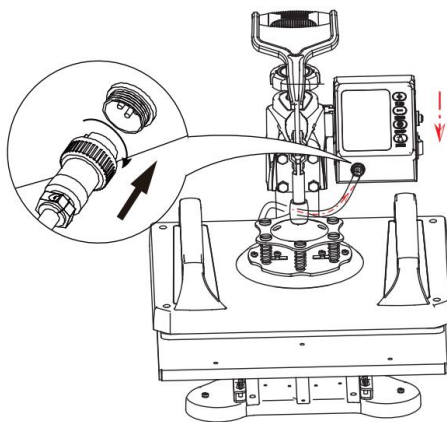

Fig 9
9. Clip the controller into the head slot from top to bottom, connect the male head of the heating platen with the female head of the control controller, and lock the nut to complete the installation (as shown in figure 9).